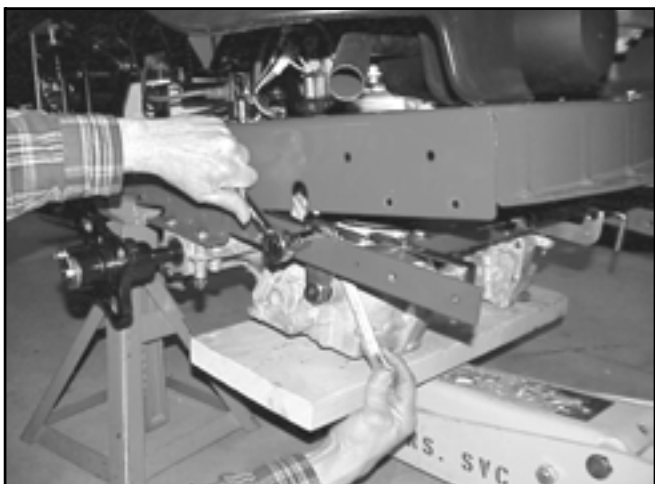

Figure 36
10. Disconnect both the right and left hydro rods by removing the bolt and nut through the frame of the unit (Figure 36).
11. Lift up on the front of the hydro frame and move the hydro mount frame toward the rear end of the unit. Use caution not to bend the right and left brake rods and the hydro rods (Figure 36).